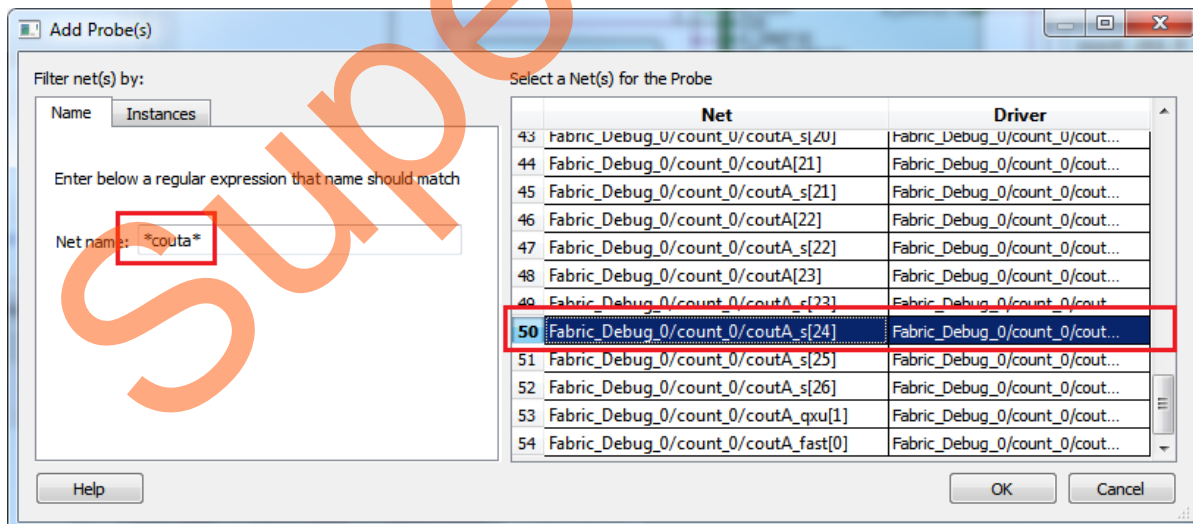

Figure 25 • Adding a Net to Probe
2. In the **Net Name** field, enter the ***couta*** signal, as shown in Figure 25. Select signal **Fabric_Debug_0/count_0/coutA_s[24]**. The goal is to add a probe by routing the counter bit 24 signal out into the E1 LED and check if it toggles.